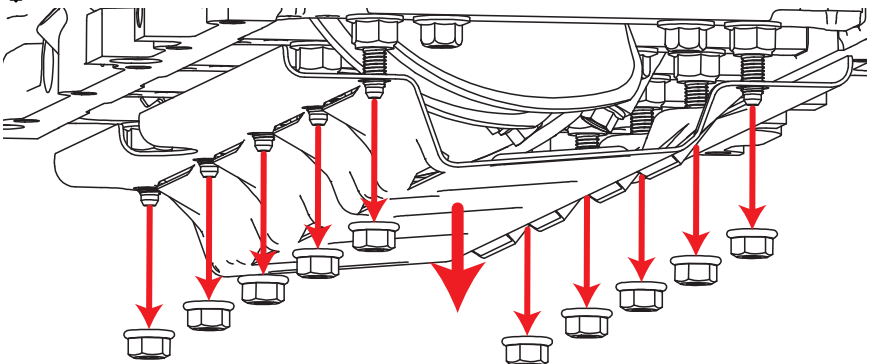

Figure 3 - Removing the Factory Windage Tray
9. Use a 13 mm tool to completely remove the windage tray as shown in Figure 3.